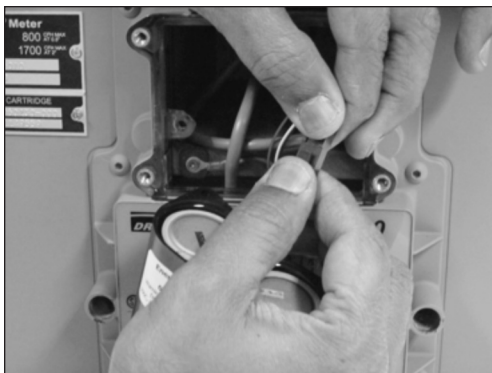

Figure 9.30 - Disconnect the wiring
- Disconnect the wiring between the battery back and the main circuit board as shown in Figure 9.30.